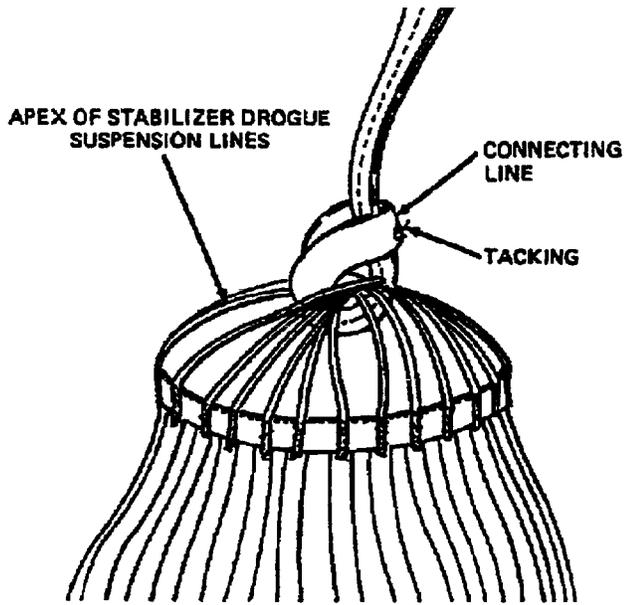

Figure 4. Replacement of Stabilizer Drogue
f. Pass free end loop of connecting line around apex suspension lines of replacement stabilizer drogue (Figure 4). Route complete controller drogue thru loop of connecting line and pull tight. Tack loop with one turn of size 6 thread, double and waxed; tie off. (QA)
f. Pass free end loop of connecting line around apex suspension lines of stabilizer drogue (Figure 4). Route complete controller drogue thru loop of connecting line and pull tight. Tack loop with one turn of size 6 thread, double, and waxed; tie off. (QA)
h. Make proper entries on Parachute Record (OPNAV 4790/101). (QA)
h. Pass free end loop of connecting line around apex suspension lines of stabilizer drogue (Figure 4). Route complete controller drogue thru loop of connecting line and pull tight. Tack loop with one turn of size 6 thread, double and waxed; tie off.
k. Make proper entries on Parachute Record (OPNAV 4790/101). (QA)